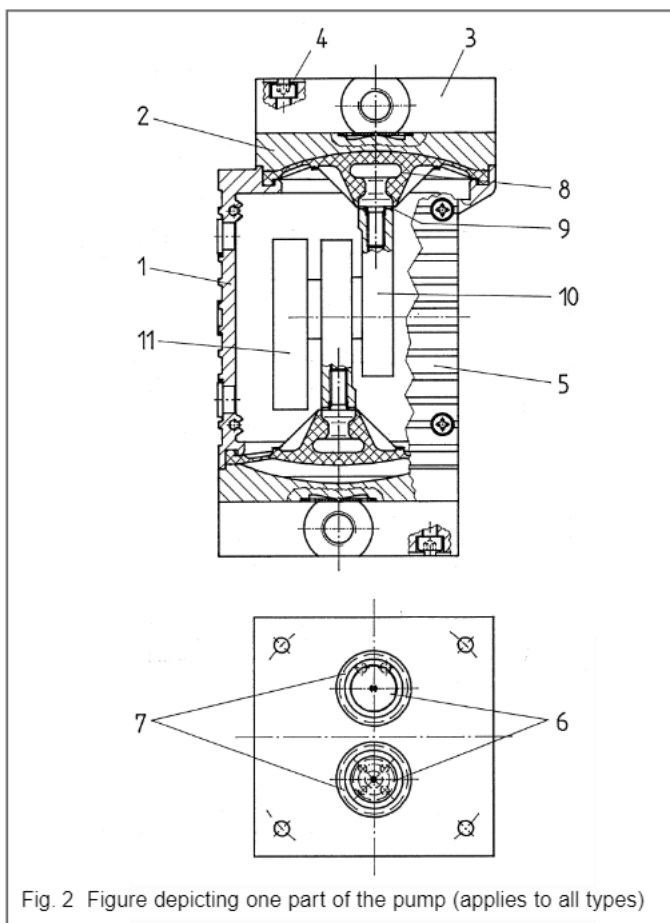

Fig. 2 Figure depicting one part of the pump (applies to all types)
Key to figures 2 to 5
Separate the ribbed cover (Fig. 2/4/5, item 3) from the intermediate panel (Fig. 2/4/5, item 2).
Fit the intermediate panel (Fig. 2/4/5, item 2) with the valve plates and sealing rings (Fig. 2/item 6 and 7) as well as the ribbed cover (Fig. 2/4/5, item 3) according to the marks (M) on the case.
Only slightly tighten the bolts (Fig. 2/4/5, item 4) crosswise.
Now manually tighten the bolts (Fig. 2/4/5, item 4).
Affix the cover (Fig. 2/4/5, item 5) to the case.